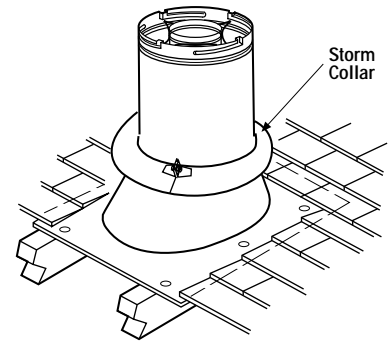

Figure 24
J. Install the storm collar - Install the storm collar, supplied with the flashing, over the vent/flashing joint. See **Figure 24**. Loosen the storm collar screw. Slide collar down until it meets the top of the flashing. Tighten the adjusting screw. Apply non-combustible caulking or mastic around the circumference of the joint to provide a water tight seal.